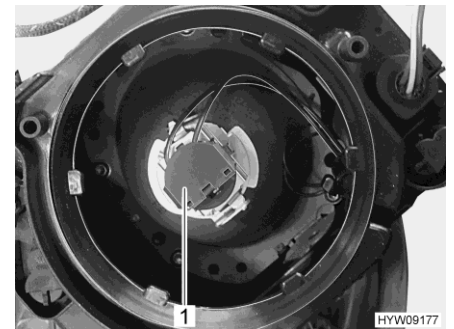

Fig. 236 Bulb (low beam/main beam)
- Turn the holder (Fig. 236,1) with the lamp in an anticlockwise direction and take it out of the lamp housing.
- Insert the holder (Fig. 236,1) with bulb into the lamp housing and tighten in a clockwise direction. The holder engages audibly.